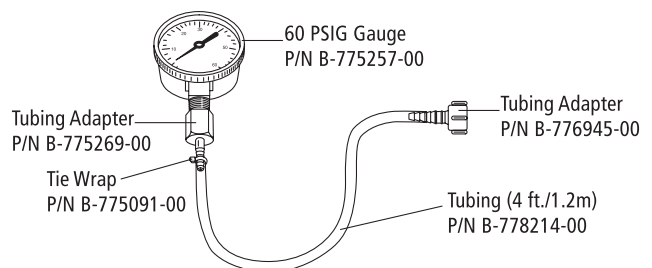

Figure 1-13: Test Pressure Gauge
Test Pressure Gauge with Tubing Adapter 0-60 psig (0-414 kPa) Figure 1-13	Puritan-Bennett B-775270-00
- a test pressure gauge with tubing adapter (Figure 1-13)